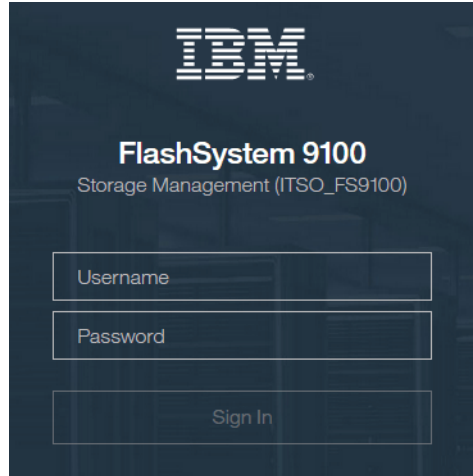

Figure 7-46 IBM FlashSystem 9100 GUI login window
1. Open a supported web browser and navigate to your cluster IP address. A login window opens (Figure 7-46).